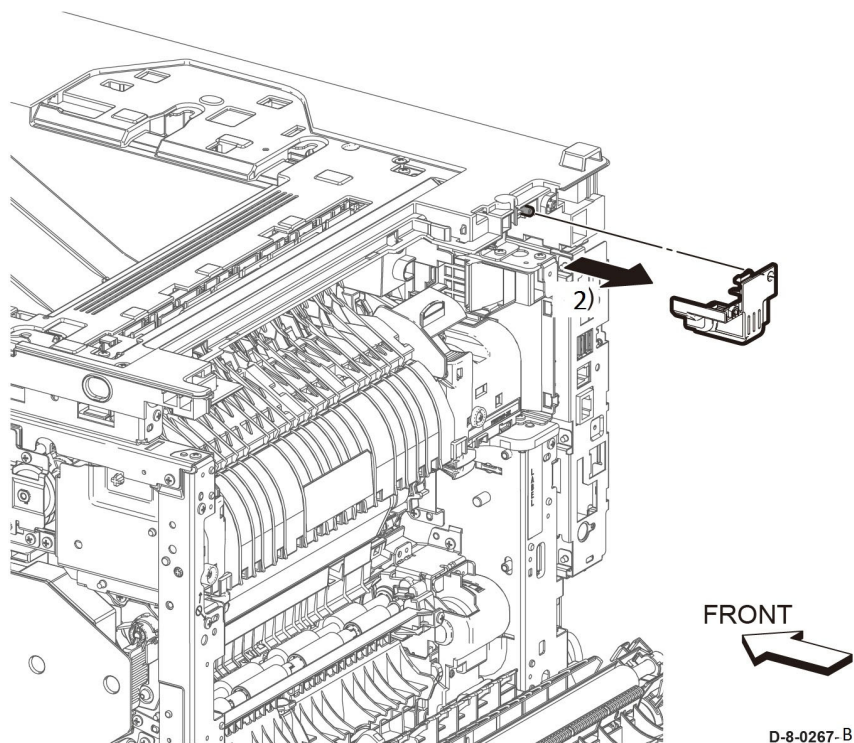

Figure 1 Remove the OPT blind cover
2. Remove the OPT blind cover, Figure 1: